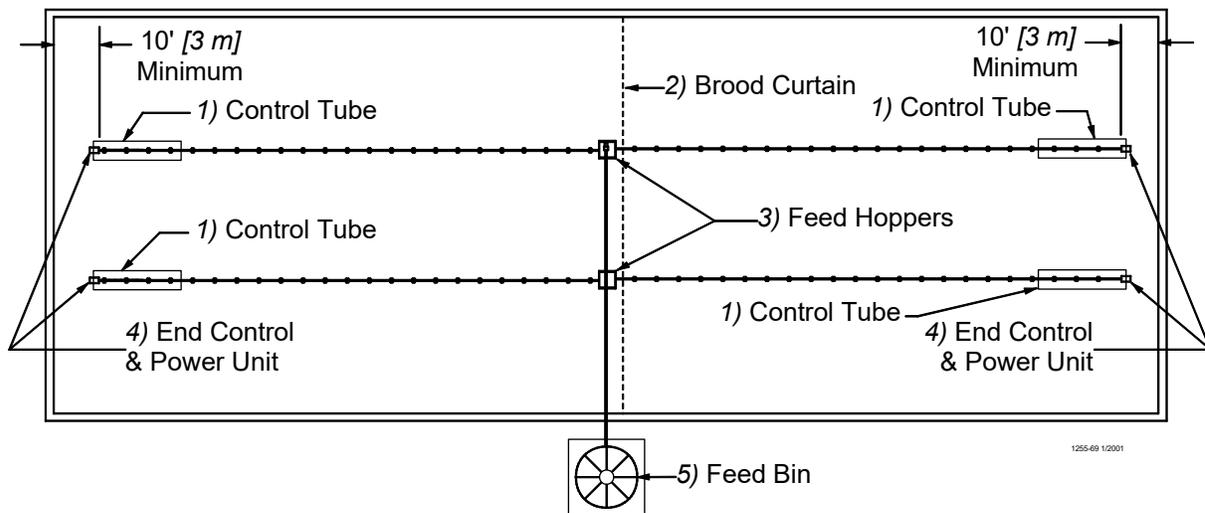

Figure 2. Component location diagram for systems over 400 feet [122 m].
- A. Systems with line lengths over 400' [122 m] should be split in the center, as shown in Figure 2. This will reduce auger running time and eliminate the need for Mid-Line Controls for partial house brooding.